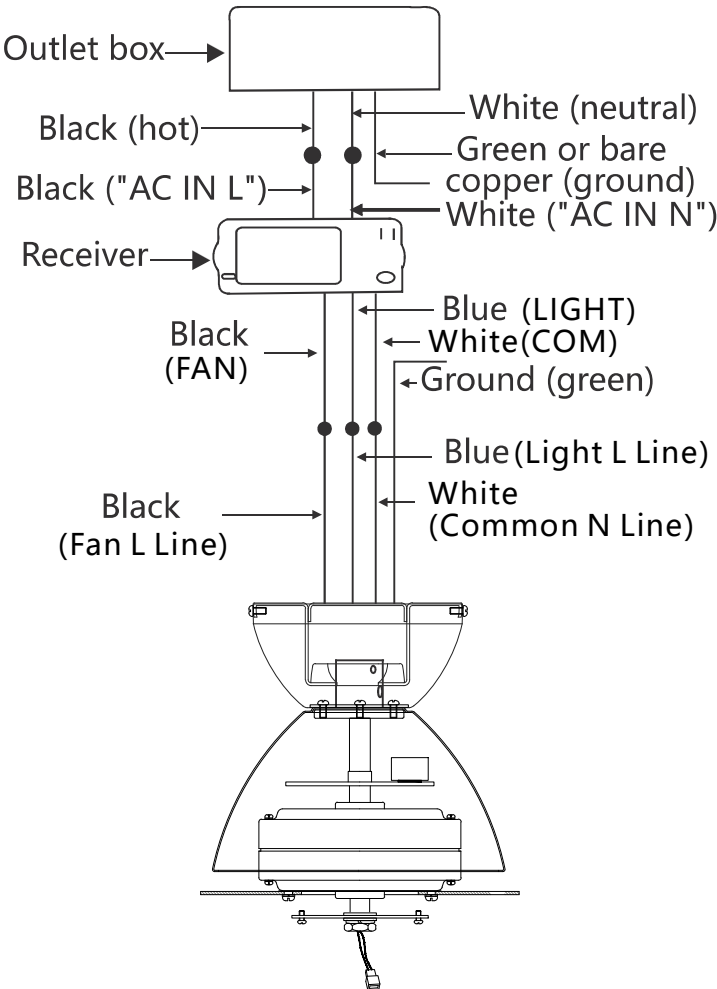

Fig.15
Step 3. Receiver to Supply Wires Electrical Connections: (Fig. 15)